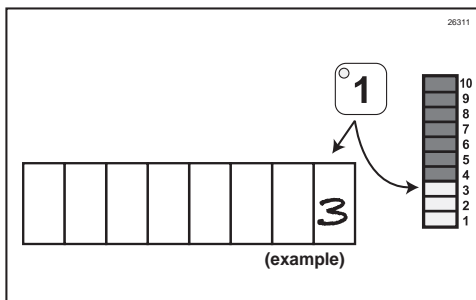

Figure 172
2. Select the #1 key and record the number of bars that illuminate on the bar graph as the last digit in the serving count. 10 illuminated bars on the graph represent "0". (See Figure 172.)